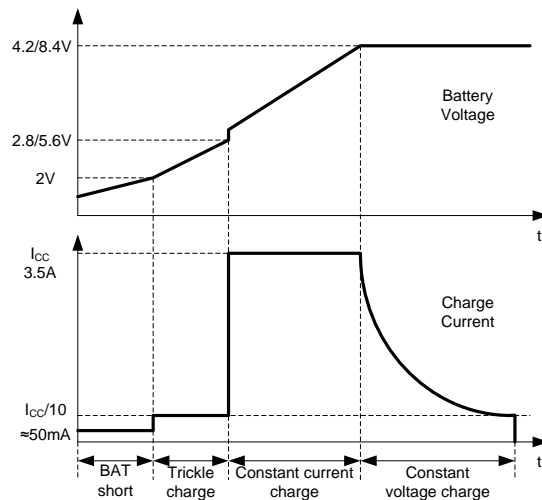

Figure 2. Battery Charge Modes
3. Place C_{BD} close to the BD and GND pins. The loop area formed by C_{BD} and GND must be minimized. Refer to Figure 2 below for the recommended C_{BD} layout design.
6. Place the current sense resistor adjacent to the junction of the inductor and output capacitor. The traces from the sense connection points on the sense resistor to the device pins should be close to each other to minimize the loop area. Do not route the sense nets across high current paths. Refer to Figure 2 below for the recommended PCB layout design.